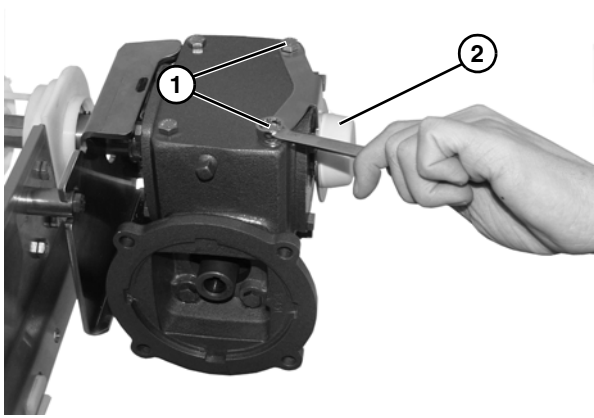

Figure 12
3. Remove two screws (**Figure 12, item 1**) and gear reducer output shaft cover and bracket (**Figure 12, item 2**).